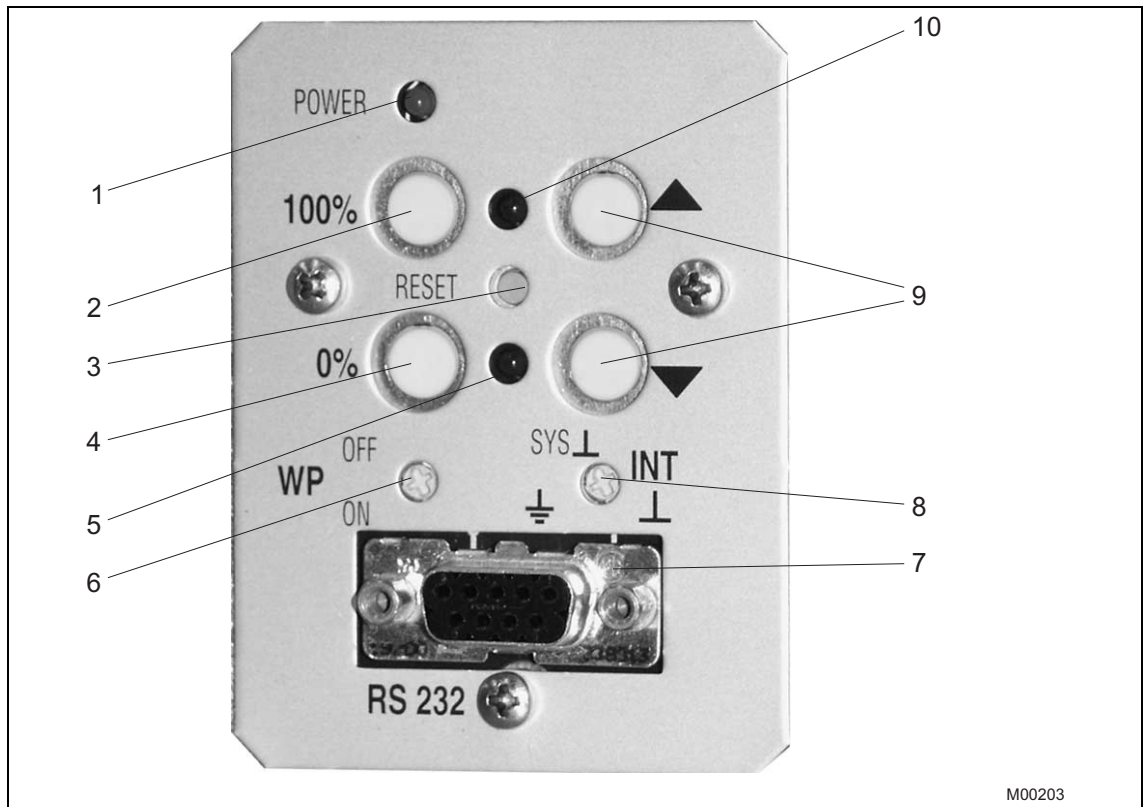

Fig. 21: Commissioning and service field (ISF)
1. Switch the electronic unit to "Device setup" mode. Press and hold down both travel buttons (9) at the same time for approx. 5 s until both LEDs (items 5 and 10 in Fig. 21) flash in sync at a rate of 4 Hz.